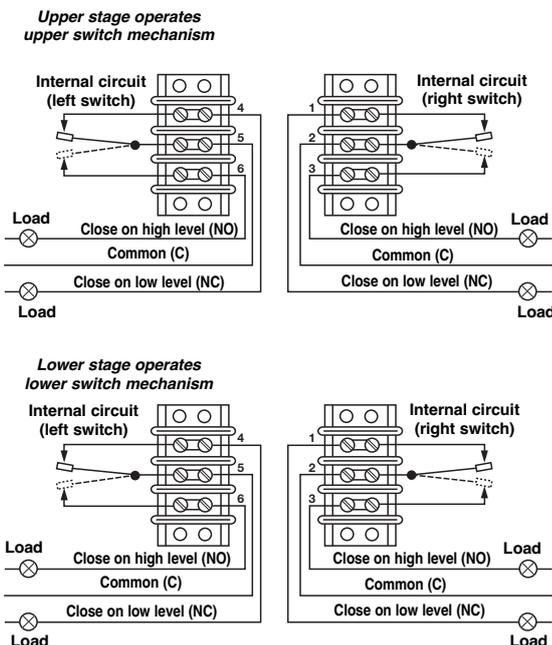

Figure 19
1. Rising level closes contacts 5 & 6 and 2 & 3, see Figure 19.